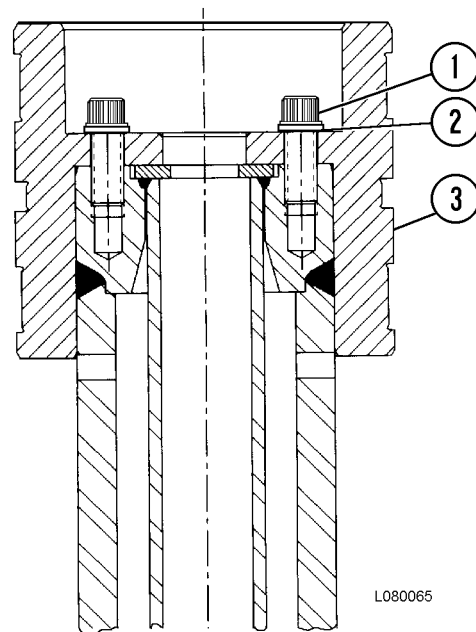

FIGURE 8-23. 3rd STAGE PISTON
2. Align and slide second stage cylinder (2) inside first stage cylinder (3). Allow the second stage to protrude far enough to install snap ring (9) on the inside of the first stage cylinder.
3. Mount housing (4) in the fixture with the cover end positioned at the top. Install bearings (19), buffer seal (18), rod seal (20) and rod wiper (21) in the housing.
5. Install bearings (13) and (24) on first stage cylinder (3). Lift and align this assembly over housing (4). Lower the second and first stage cylinders into the housing.
7. Install bearings (19), buffer seal (18), rod seal (20) and rod wiper (21) in second stage cylinder (2).
8. Attach a lifting device to the eye of rod (1) and align it over housing (4). Install cushion (25) on the rod with the chamfered corner toward the rod eye. Lower the rod into the housing. Lubricate the rod with hydraulic oil.
9. Rotate the housing 180 degrees to position the cover end at the top. Remove the retainer bar that was installed in Step 6. Install bearings (17) and seal (16) on rod bearing retainer (6).
10. Thread two guide bolts - 100 mm (4 in.) long - in the end of rod (1). Install seal (8) on the end of the rod.
11. Align piston rod bearing retainer (6) over the guide bolts and lower it over the end of rod (1). Remove the guide bolts.
12. Check capscrews (1, Figure 8-23) carefully for distress. Replace the capscrews if in doubt.
13. Lubricate capscrews (1) with a lithium-based grease. Install capscrews and plate (2). Tighten the capscrews to **780 N·m (575 ft lb)**.